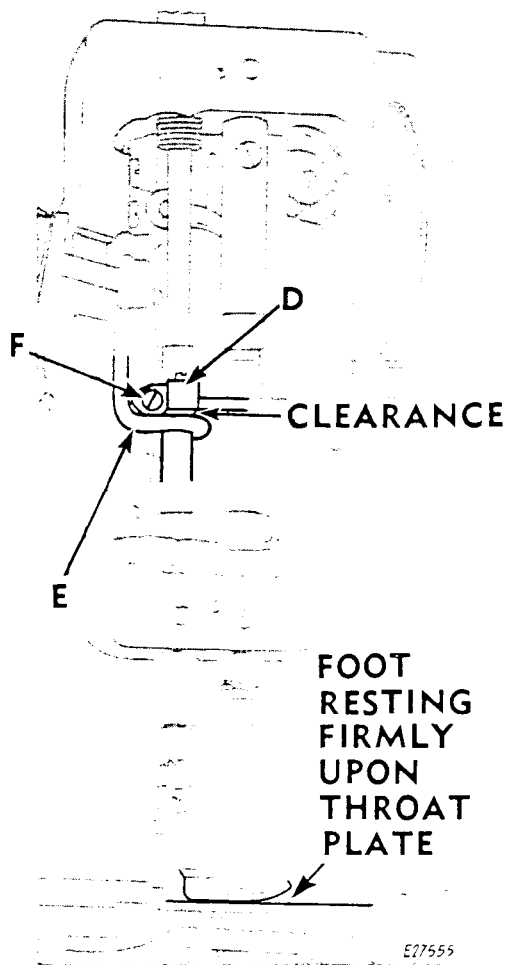

Fig. 32. Checking Height of Presser Bar
1. When presser foot rests firmly upon throat plate (with feed dog below throat plate) there should still be some clearance between guide bracket **D**, **Figs. 32** and **32A** and lifting bracket **E**, as shown in **Figs 32** and **32A**.
Loosen clamping screw **F**, **Figs. 32** and **32A**. Raise or lower guide bracket **D**, as required. Securely tighten screw **F**.